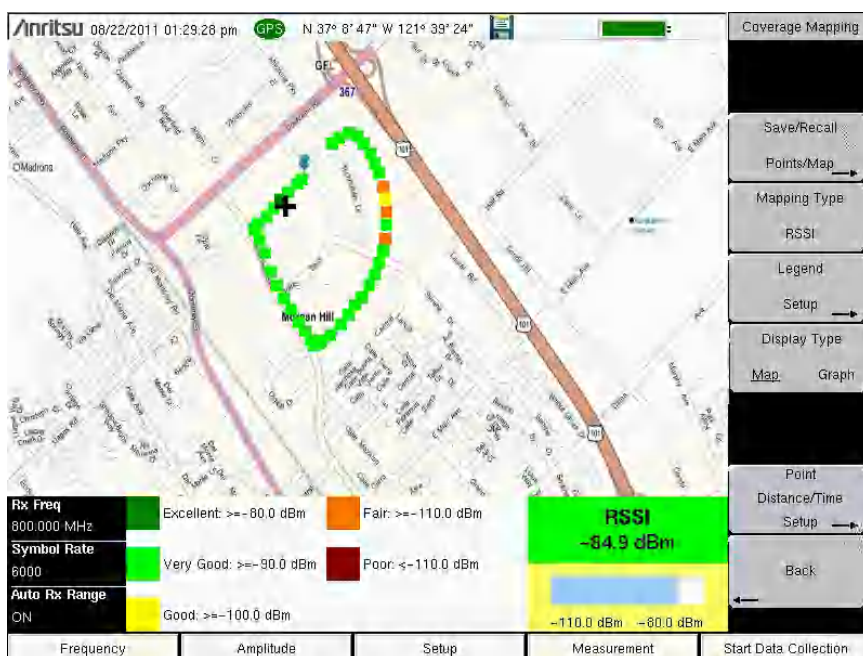

Figure 3-13. Coverage Measurements
1. Press the **Measurement** main menu key, then press the NBFM Coverage submenu key twice (Figure 3-13).
1. Press the **Measurement** main menu key, then press the P25 Coverage, P25p2 Coverage, NXDN Coverage, dPMR Coverage, DMR Coverage, PTC-ITCR Coverage, PTC-ACES Coverage, or TETRA Coverage submenu key twice (Figure 3-13).